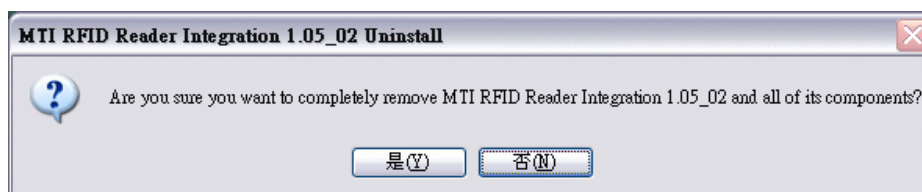

Fig. 7 Confirmation of uninstallation.
**Step 2:** Click “Yes” of confirmation to remove program, shown in Fig. 7